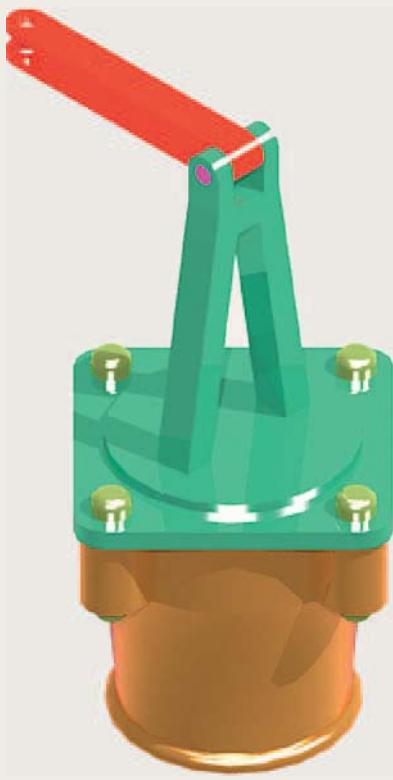
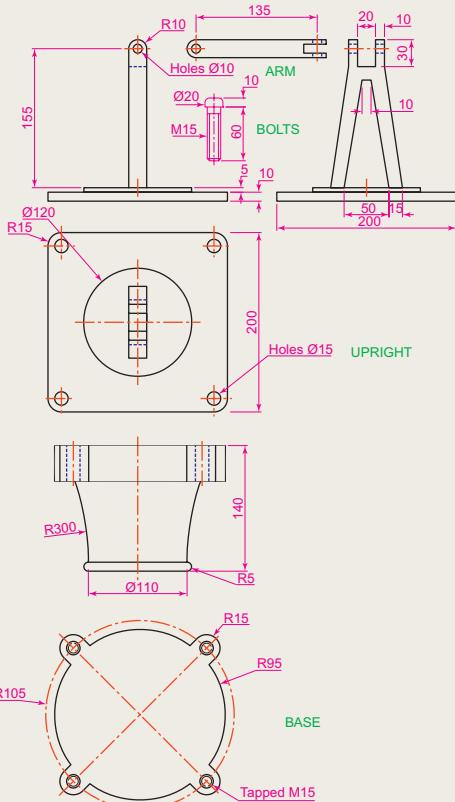

Fig. 18.26 Exercise 3
Fig. 18.27 Exercise 3 – the parts drawing
- 3.** Construct the 3D model shown in the rendering Fig. 18.26 from the details given in the parts drawing Fig. 18.27.